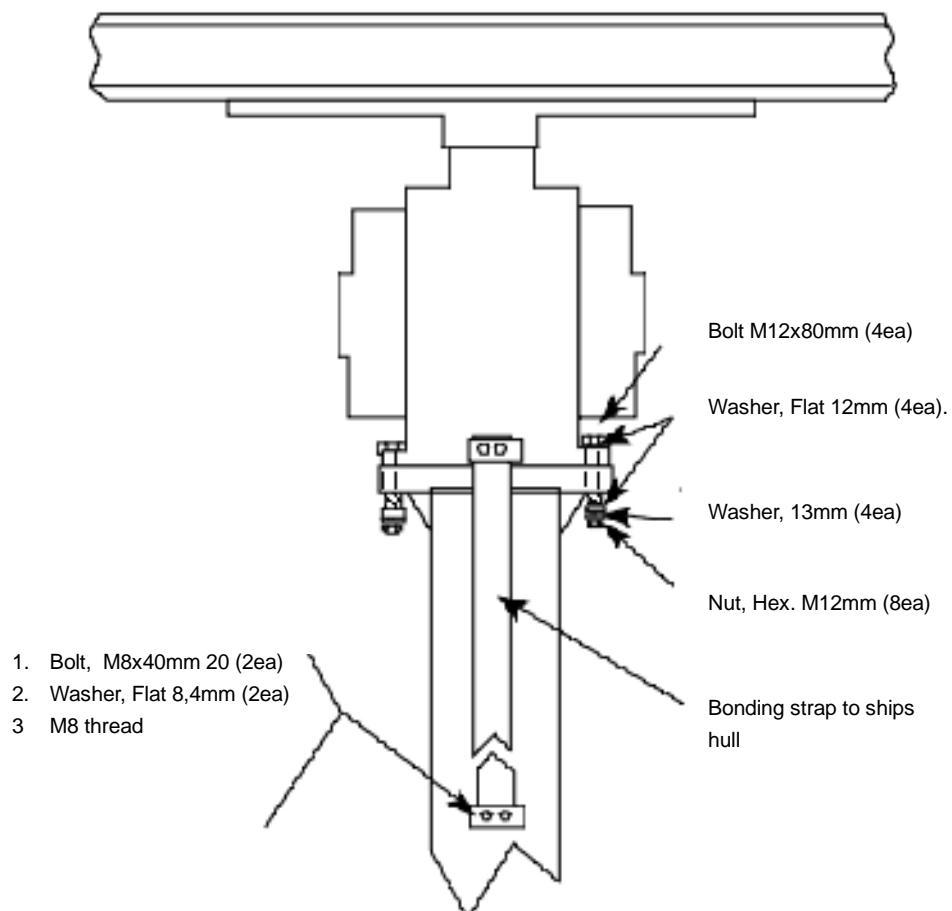

Figure: 2-7 NSC MTR Up/Pedestal Mounting and Bonding
- (4) Before lifting straps are removed, if required level the MK2 MTR Up/Pedestal by raising the MTR Up/Pedestal and inserting additional customer supplied 1/32-inch fiberglass shim(s) or 1/16 inch fiberglass shim(s) between the MTR Up/Pedestal and mounting plate to assure a sound mechanical contact of the MTR Up/Pedestal and mounting plate. See Figure: 2-7 .
- (5) Before lifting straps are removed, secure the MK2 MTR Up/Pedestal to the mounting plate using four 1/2-13 x 2-1/2 inch (M12x80) bolts, eight flat washers, four lock washers and nuts. Hardware should be of 18-8 stainless steel, coated liberally with grease. Customer will supply hardware.
- (6) Remove hoisting line.
- (1) After the NSC MTR Up/Pedestal has been properly positioned on the mounting plate and securely bolted in place, the unit must be bonded to the ship's hull.
- (2) Connect the bonding strap, Figure: 2-7 from the NSC MTR Up/Pedestal to the mast and then to the ships hull, using customer supplied hardware. Coat bonding hardware liberally using NO-AL-OX®.